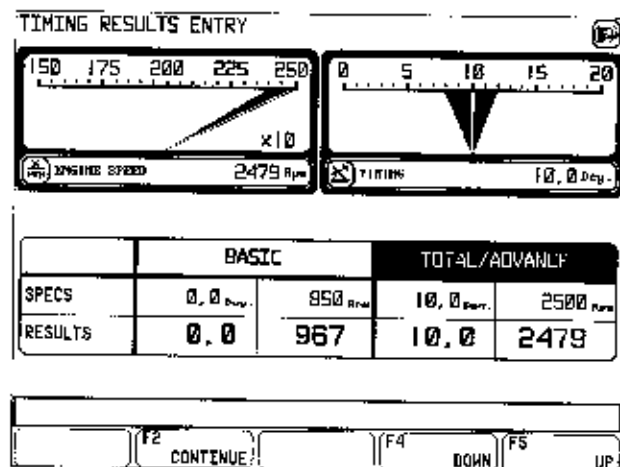

Figure 2-11
3. The "Timing Results Entry" screen appears (see Figure 2-11). The "Basic" data box will be highlighted.